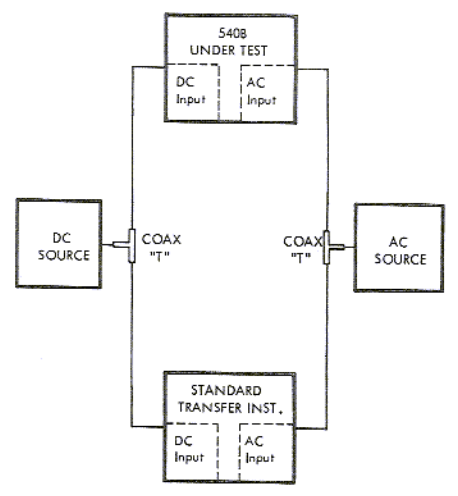

Figure 4-5. TRANSFER CALIBRATION CHECK
- a. Connect the equipment as shown in Figure 4-5 observing the precautions mentioned in Section 2-9.
When connecting the transfer standards as shown in Figure 4-5, it is mandatory that the leads be kept as short as possible. It is also necessary that all ac leads have losses equal to the losses in the comparable dc leads. Ten milliohms of lead loss difference represents a .01% error in the transfer readings on the 0.5 volt range.
- b. Prepare a test record similar to the one shown in Figure 4-5.